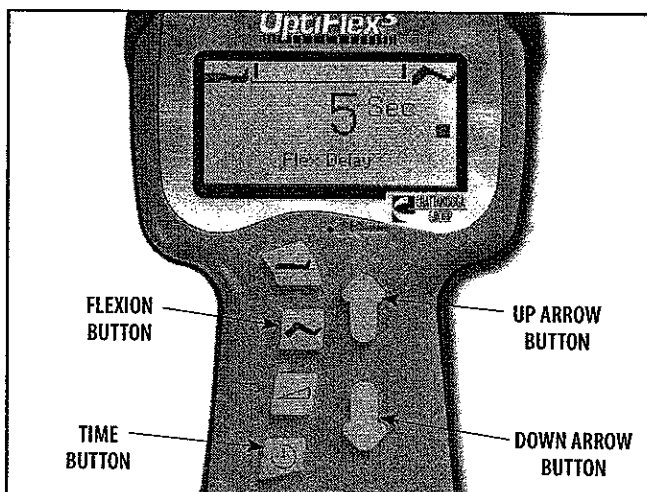

FIGURE 5.5
6. Press and hold the Time and Flexion buttons. While holding the Time and Flexion buttons, press the Up or Down Arrow button until 5 Sec is displayed on the Pendant. See Figure 5.5.